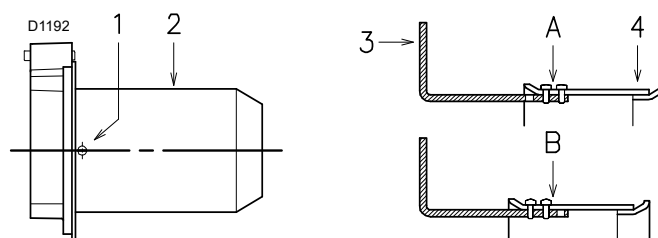

Fig. 13
- loosen the screws 1)(Fig. 13) and disassemble the blast tube 2);
- move the rod 3)(Fig. 13) from position **A** to position **B**, thereby drawing back the shutter 4);
- reassemble the blast tube 2)(Fig. 13) and the screws 1).